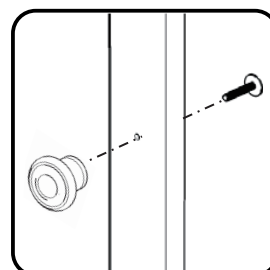

Figure 7
Attach Knob to Door (L) with Machine Screw. (See Figure 7)